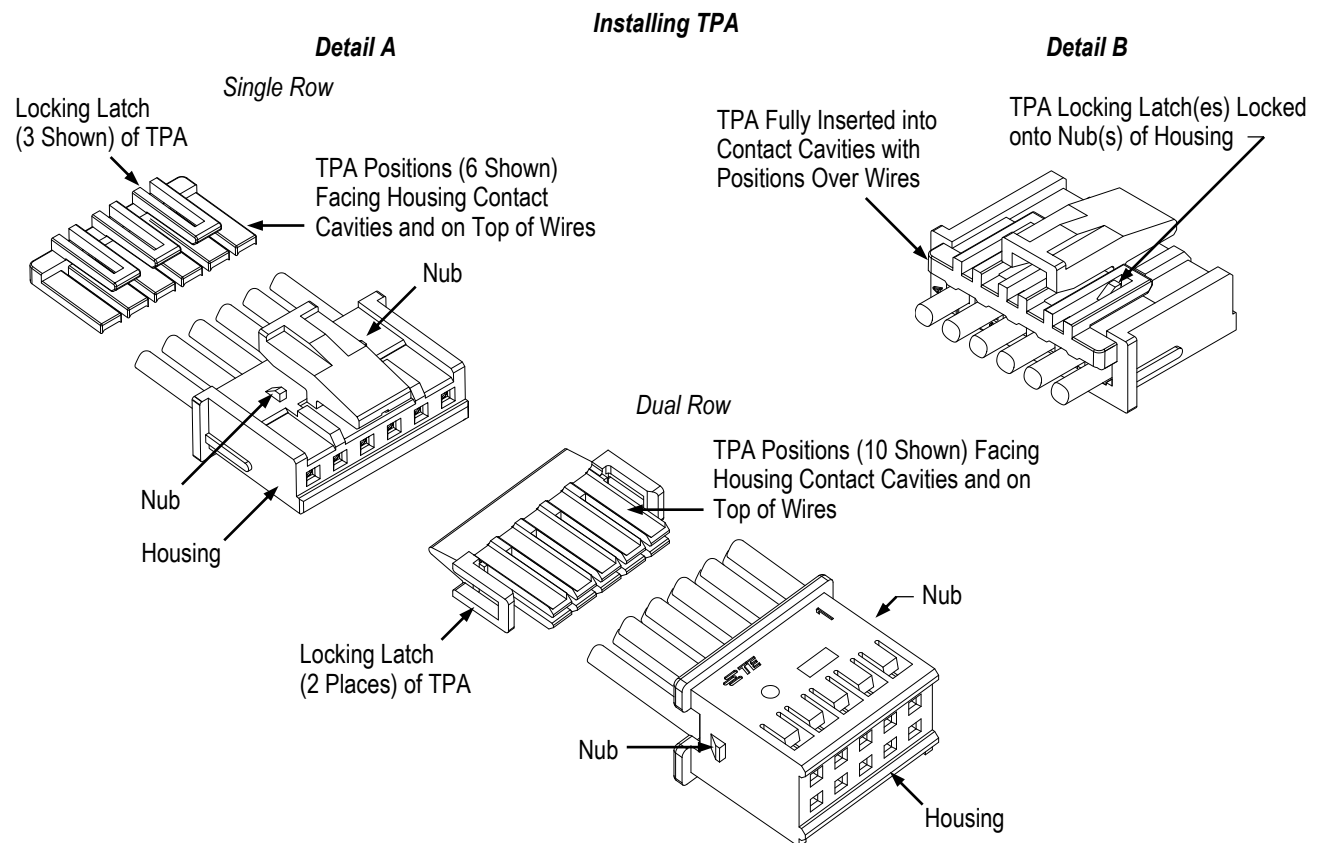

Figure 3
- a. Align the TPA with the wire end of the housing so that each position faces a contact cavity and is on top of the wires. See Figure 3, Detail A.
- b. Slide the TPA into the housing so that the positions enter the contact cavities evenly and until the locking latch(es) locks onto the nub(s) of the housing. There will be an audible and tactile “click”. See Figure 3, Detail B.
- Changed NOTE in Paragraph 1.1, step 3,b, and changed 5 positions to 10 positions in Figure 3